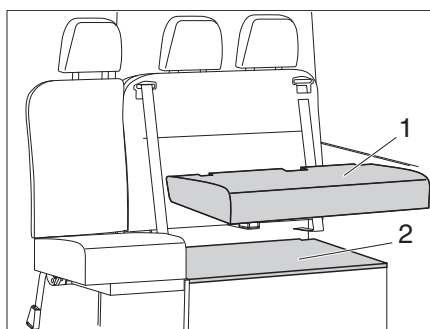

Fig. 42 Pulling out the seat extension
- Insert the chest cover (Fig. 42,2) and place the seat cushion (Fig. 42,1).